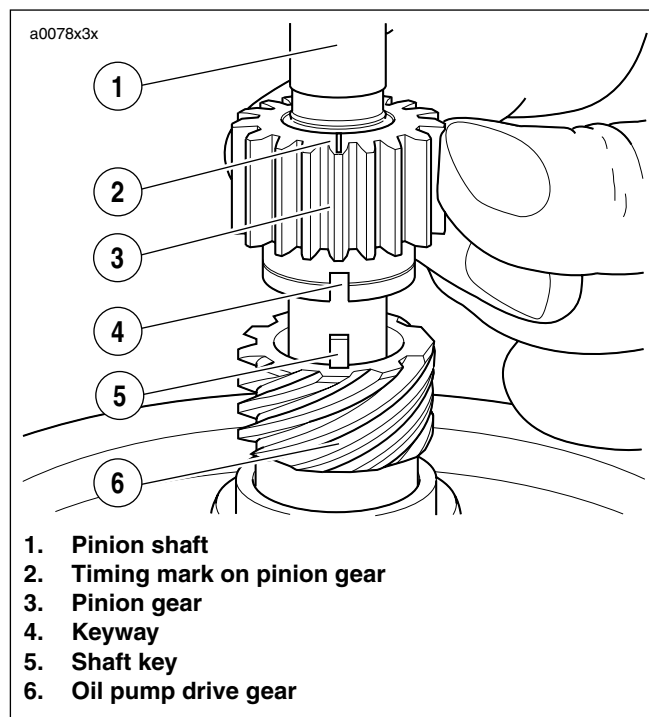
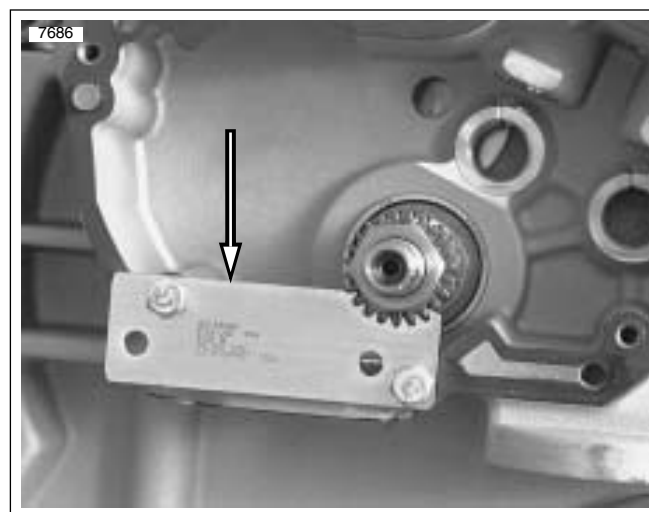

Figure 3-107. Aligning Pinion Gear
Figure 3-108. Crankshaft Locking Tool (HD-43984)
- See Figure 3-107. Install oil pump drive gear (6) and pinion gear (3) on pinion shaft (1).
- Install shaft key (5) into pinion shaft slot.
- Slide oil pump drive gear (6) over pinion shaft (1). Drive gear must align with shaft key.
- Align keyway (4) in ID of pinion gear with shaft key.
- Slide pinion gear (3) over shaft key (5) and against oil pump drive gear (6).
- See Figure 3-108. Install nut.